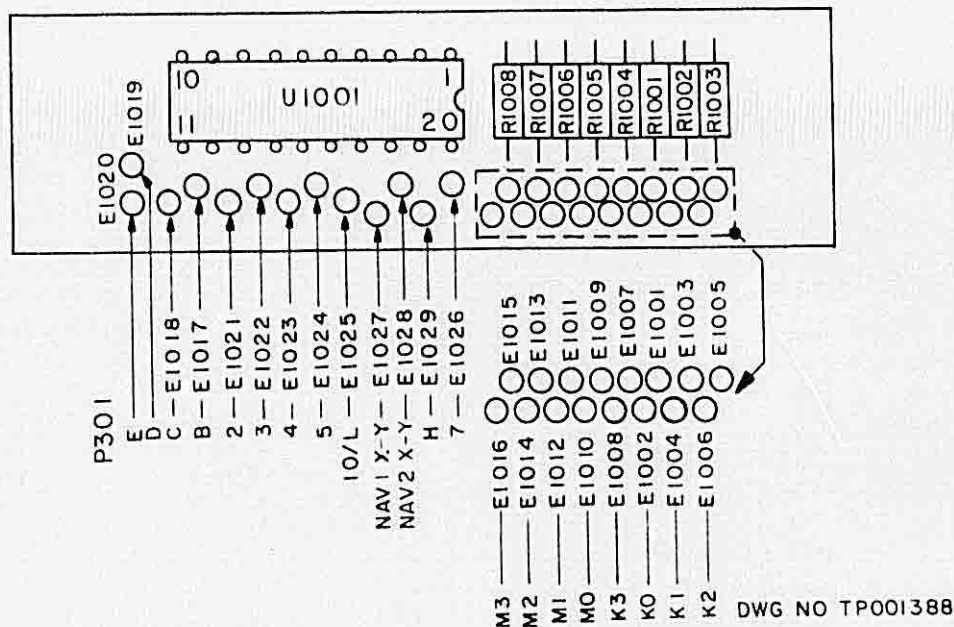
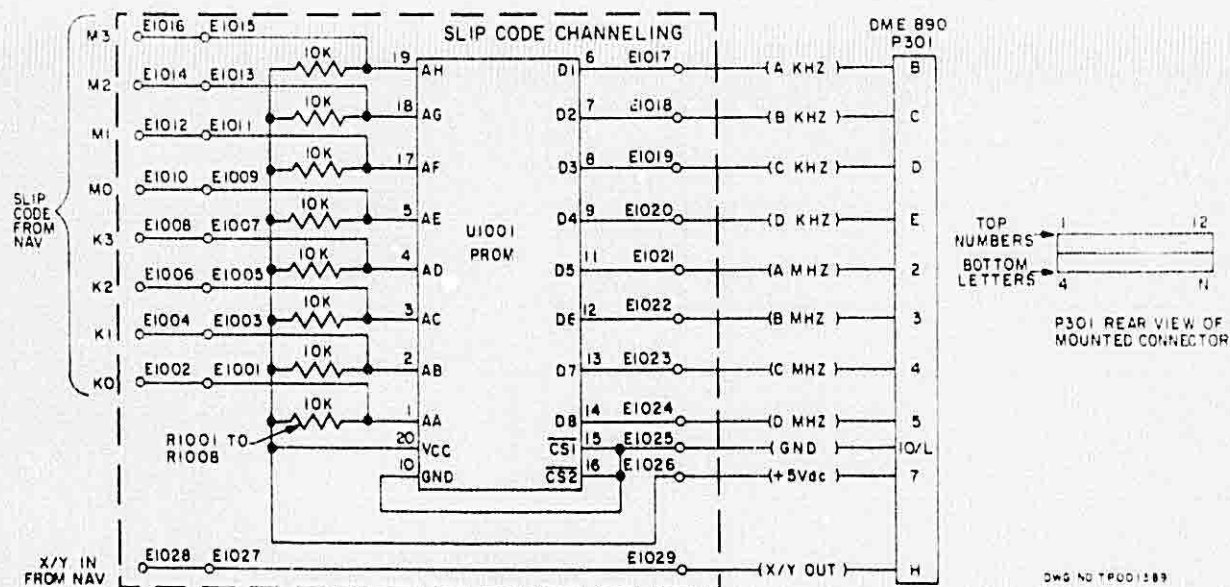

FIGURE 2. SLIP CODE BOARD COMPONENT LAYOUT
FIGURE 4. SLIP CODE BOARD SCHEMATIC AND INTERCONNECT WIRING
2. Refer to Figure 2 and solder one lead to each E1017 thru E1026 and the eleventh to E1029.
2. Refer to Figure 2 and solder one lead each to E1002, 4, 6, 8, 10, 12, 14, 16, and 28.
4. With the exception of the ground lead jumper from E1025, connect all the jumpers to P301. Refer to Figure 2 for "E" hole identification and Figure 4 the wiring schematic. E1025 must be connected to the leads going to P301-10 or -L when the tray has been re-installed.